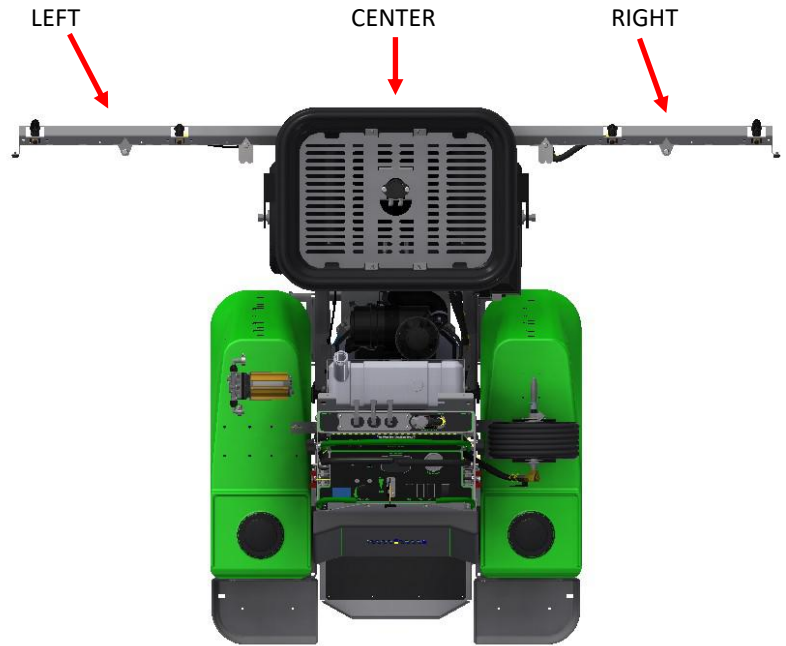

Fig. 1
- The 6 nozzle boom is divided the same: Center, left, and right (Fig 1).